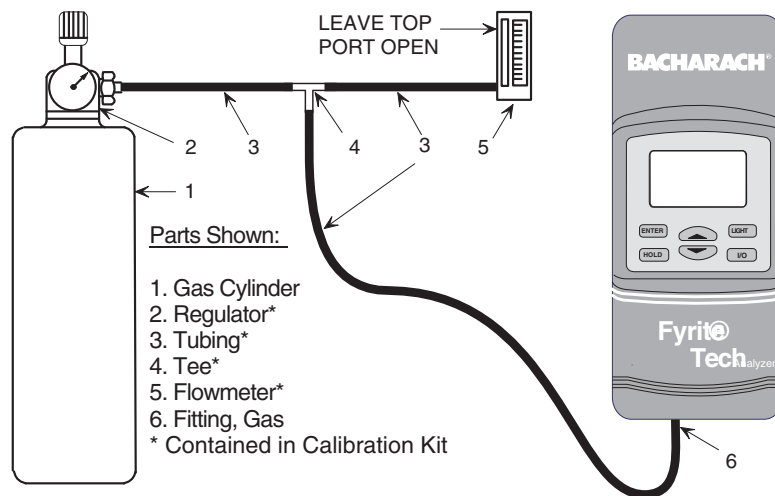

Figure 5-1. Calibration Kit Hookup
5. Connect the tubing of the Calibration Kit to the inlet of the analyzer; then adjust the regulator for approximately 2 SCFH of excess flow (see Figure 5-1).
6. Connect the tubing of the Calibration Kit to the inlet of the analyzer; then adjust the regulator for approximately 2 SCFH of excess flow (see Figure 5.1).